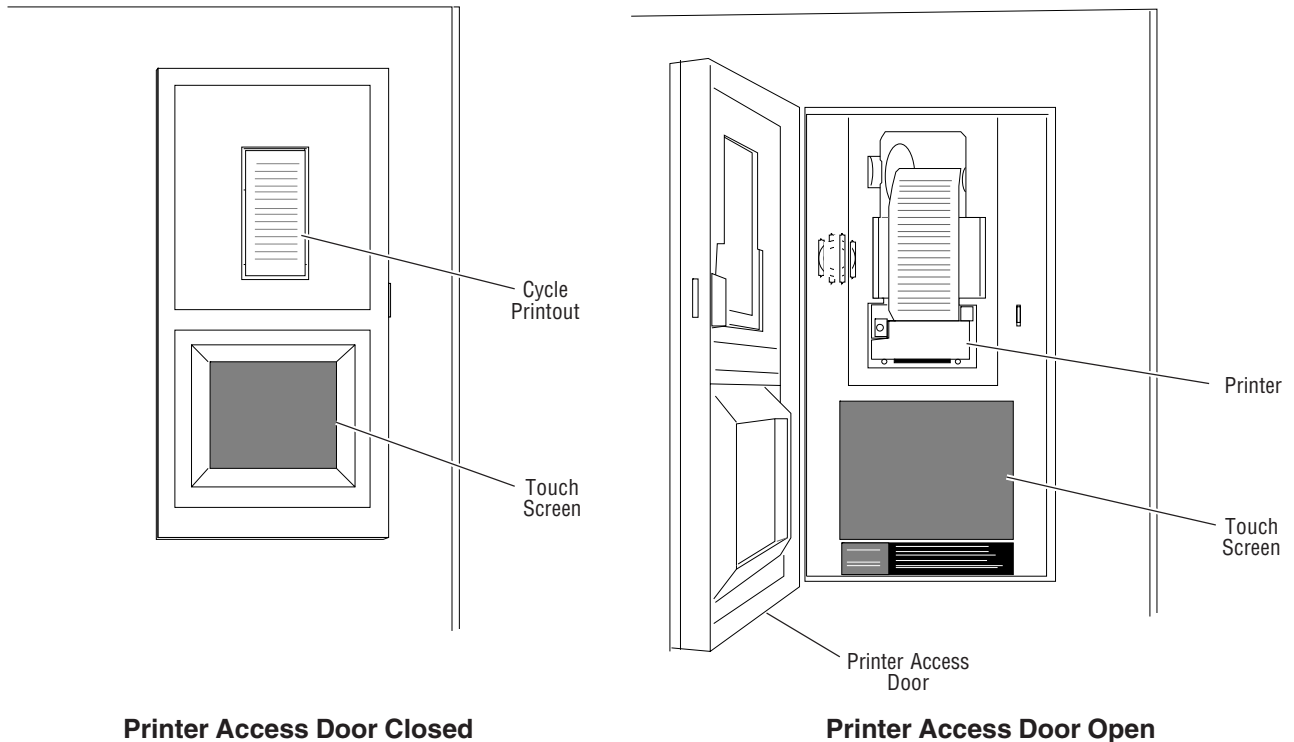

Figure 4-2. Control Panel
- **Steam Supply Valve** – This is located behind the side access panel (or within the wall enclosure), above the chamber. Refer to Figure 4-2. Ensure this is in the open position before trying to operate the sterilizer.
- **Water Supply Valve** – This is located behind the side access panel (or within the wall enclosure), below the chamber. Refer to Figure 4-2. Ensure this is in the open position before trying to operate the sterilizer.
The Control Panel, located on load end of the sterilizer, is used to direct all sterilizer functions (see Figure 4-2). The operator may control cycle operation, program cycles and sterilizer operating parameters and monitor cycle performance from the control panel.